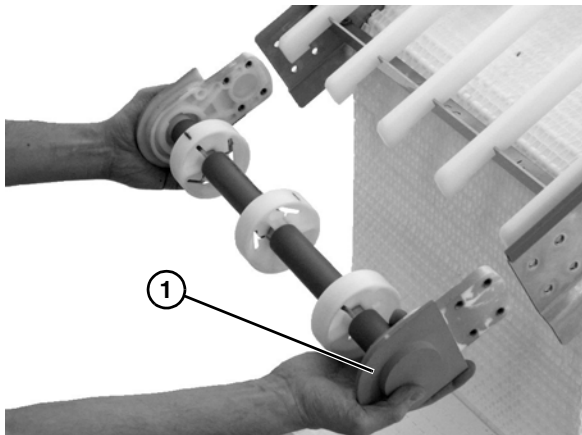

Figure 47
3. Remove idler tail assembly (**Figure 47, item 1**).